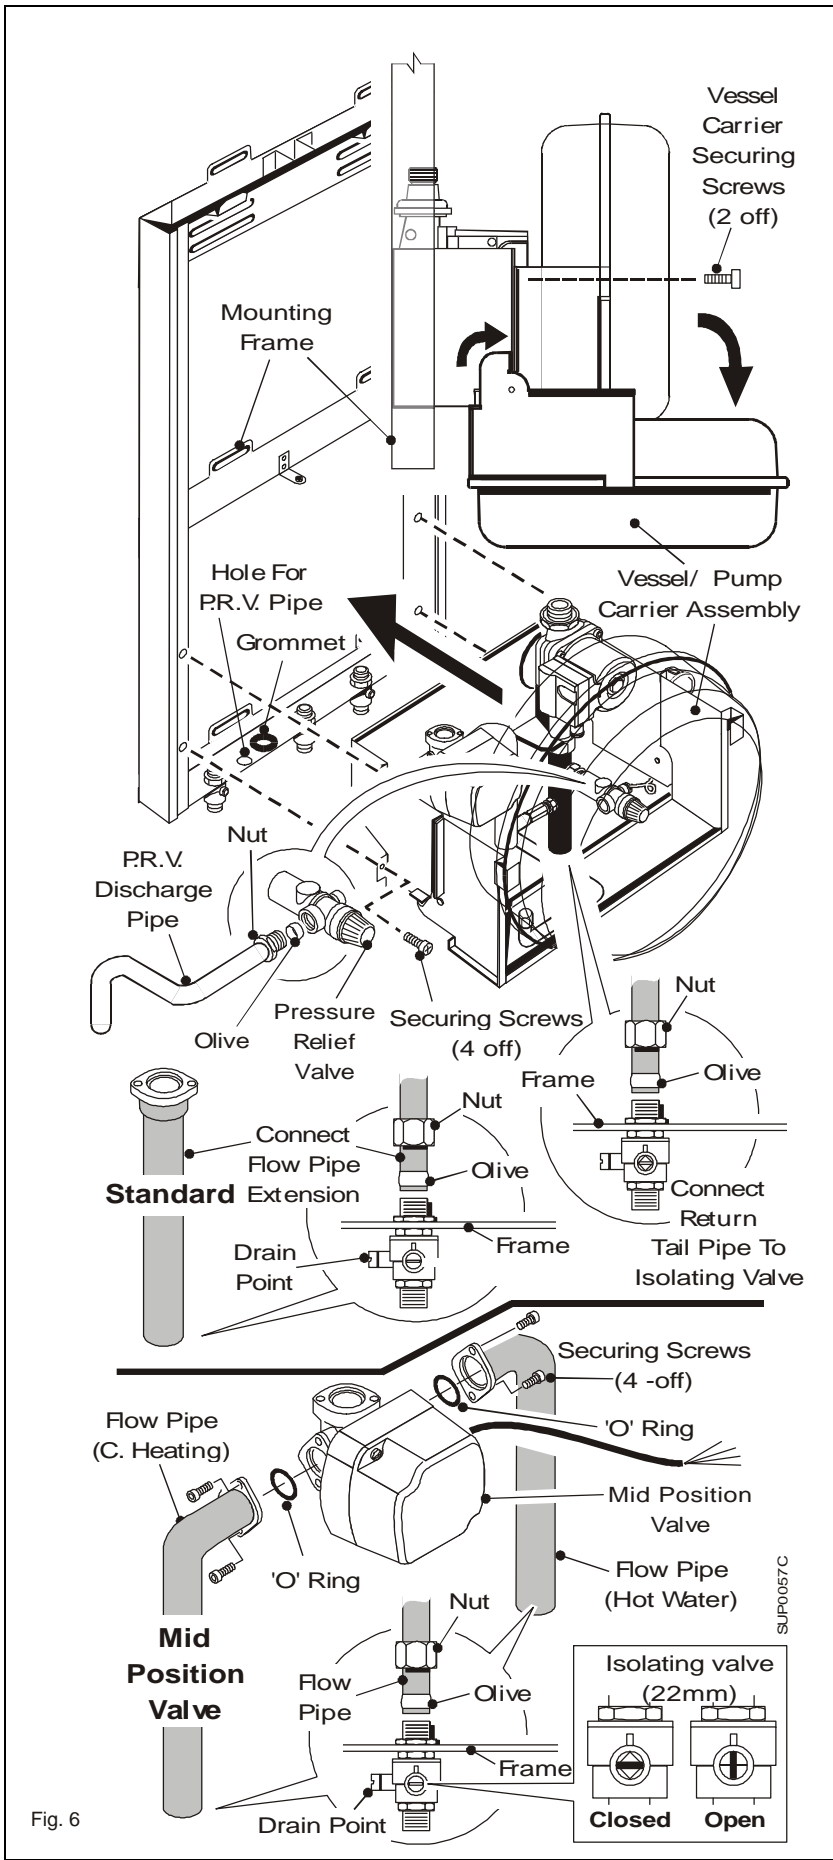

Fig. 6
Offer the Vessel/pump Carrier Assembly up to the Mounting Frame - See Fig. 6.
6. Fit the Pressure Relief Valve Discharge Pipe as shown opposite in Fig. 6.
3. Fit the adaptor (taper end) to the gas valve fitting. See Fig. 6. Use a sealing compound on the threads.